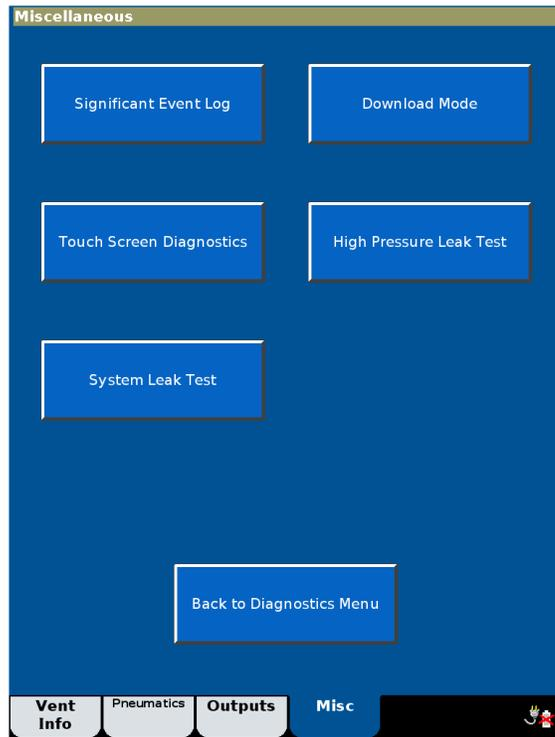

Figure E-11: Miscellaneous screen
2. The **Miscellaneous** screen opens (Figure E-11). Select **Significant Event Log**.